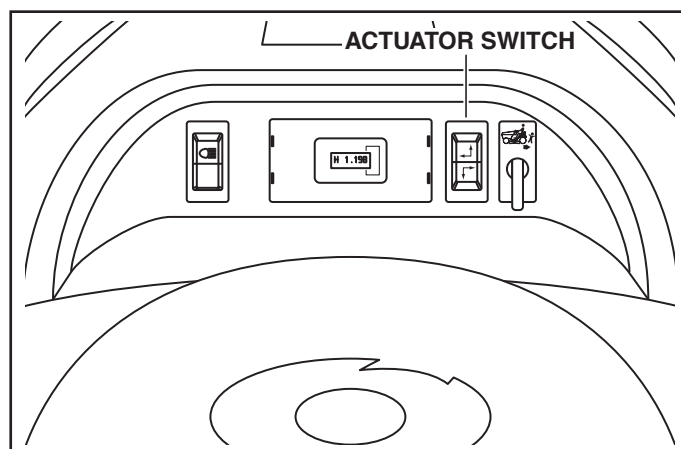

Figure 18.
2. See figure 18. Place the actuator switch into the hole that the switch cover was removed from in step 1.